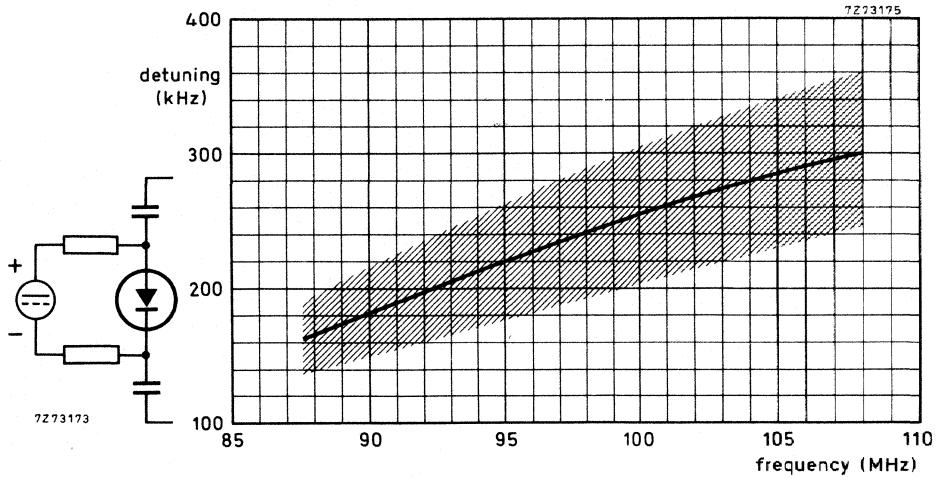

Fig. 7 Detuning as a function of signal frequency at a control voltage change from 0 to +400 mV.
A.F.C. sensitivity	see Figs 7 and 8